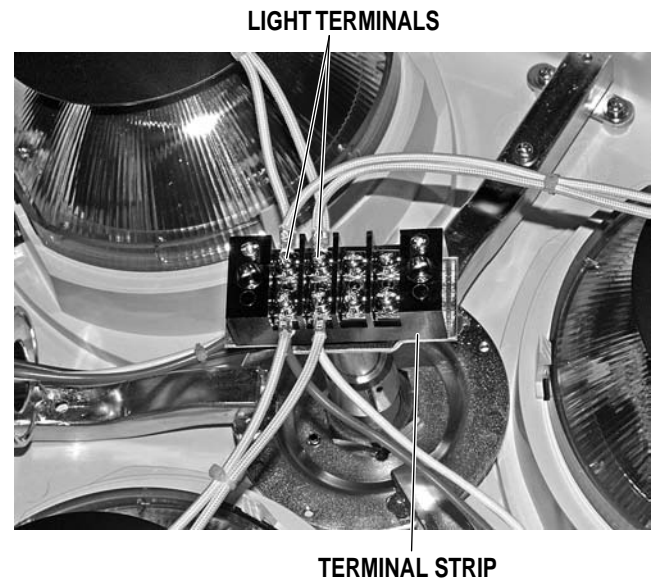

Figure 11. Bulb Voltage Test
- b. Turn main power "ON" and set the Dimmer Control for the lighthouse being tested to maximum intensity for the test. Output voltage (at the connectors) should be $20V \pm 0.2V$. See figure 11.